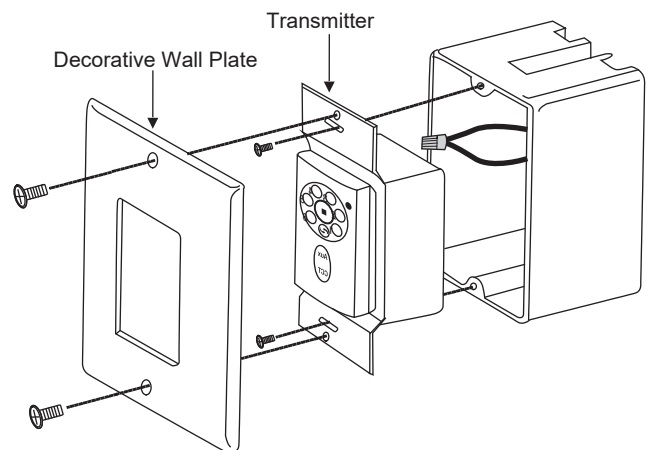

Figure 16
b. Carefully tuck the wire connections inside the outlet box. Use the screws provided to secure the wall transmitter and wall plate to the outlet box. (Fig. 16)